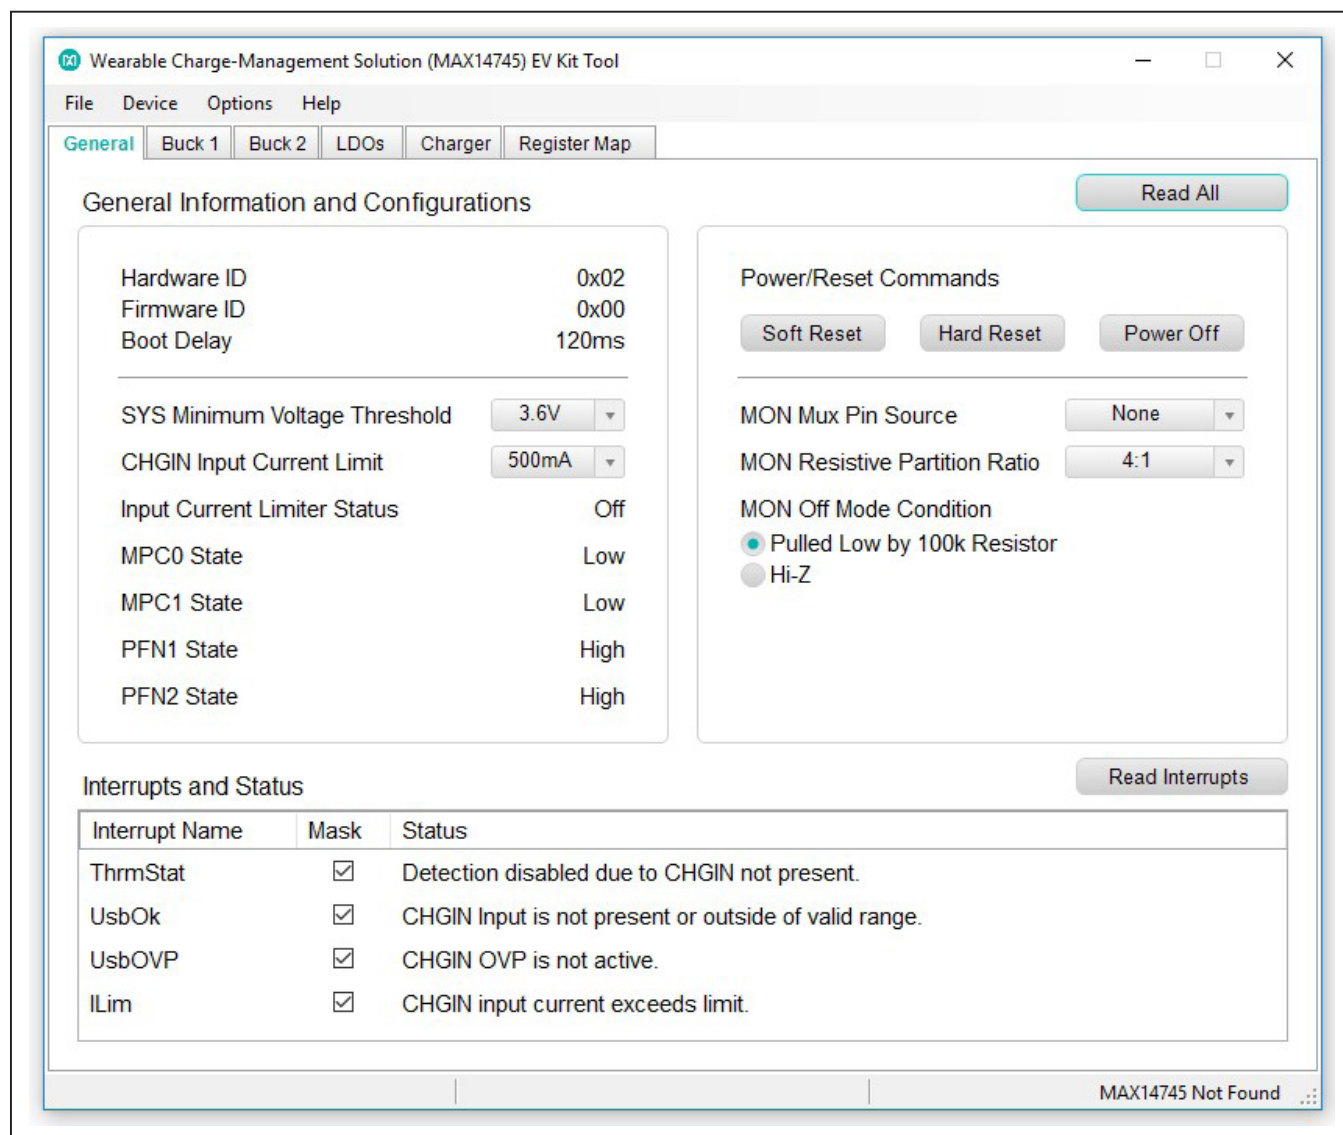

Figure 1. MAX14745 Not Found Status
- 7) On the computer, open the MAX14745 GUI. It should look like Figure 1, with the status bar on the bottom displaying **MAX14745 Not Found**.